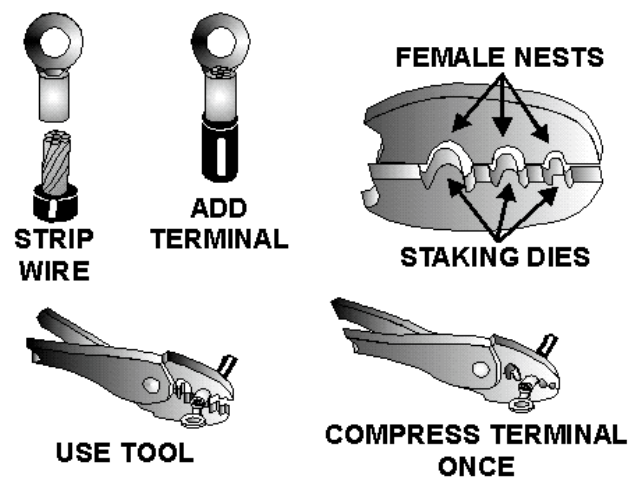

Figure 2-12.—Crimping small copper uninsulated terminals.
There are several different types of crimping tools used with copper terminals. However, you will normally be concerned only with wire sizes AWG (American Wire Gauge) 10 or smaller. For wire of these sizes, a small plier-type crimper is used to crimp on uninsulated terminals, as shown in figure 2-12. The small plier-type crimper has several sizes of notches for the different size terminals. Care should be used to select the correct size crimping tool for the particular terminal.
3. Center the terminal barrel in the female nest of the plier jaws as shown in figure 2-12 so that the indentation formed by the staking die will be in the center of the barrel. Crimp until the pliers reach their stop or limit. This is necessary for a good mechanical and electrical connection.